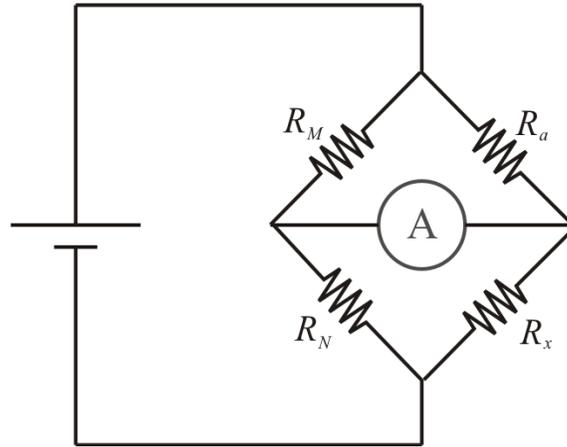

Figure 1: A Wheatstone Bridge
1. Using the multi-meter configured to measure resistance, measure and record the resistances of the resistors R_M and R_N . Make sure you do this with the resistors *disconnected* from the circuit. Use the resistors and the breadboard provided to build the Wheatstone Bridge Circuit according to Fig. 1 using the resistor values given above. As your ammeter “A” use the multi-meter configured to measure DC current. The wire segments whose resistances you are to measure, take the place of resistor R_x . Using the bridge circuit you constructed, measure and record the resistance of each wire segment. You will do this for each wire segment as follows:
3. Measure the resistance of your long copper or brass wire by plugging one end of the wire into the breadboard (at the junction of the ammeter and R_a) as shown in Fig. 1. Connect the other end to the test lead with the alligator clip. Balance the bridge using the rheostat. Disconnect the rheostat and measure its resistance. Use Equation 2 to calculate the resistance of the long copper wire. Record the resistance and the other relevant parameters in your table.